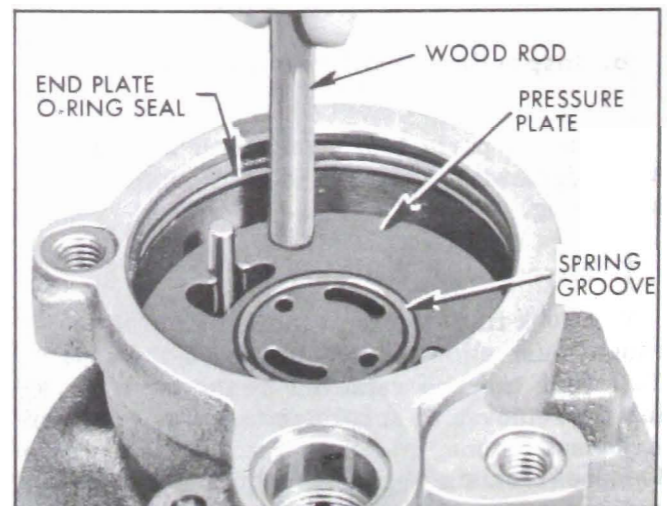

Figure 8-70—Seating Pressure Plate in Housing
that are nearest outside diameter of plate. Use a soft plastic or wood rod and lightly tap around outside diameter of pressure plate to seat it. See Figure 8-70. Pressure plate will travel about 1/16" to seat. Never press or hammer on the center of pressure plate as this will cause permanent distortion and result in pump failure.
9. Install new end plate O-ring seal in groove in bore of housing. Be sure not to install it in end plate retaining ring groove which is first groove from rear of housing. See Figure 8-70.
10. Place pressure plate spring in center groove in pressure plate. See Figure 8-70.